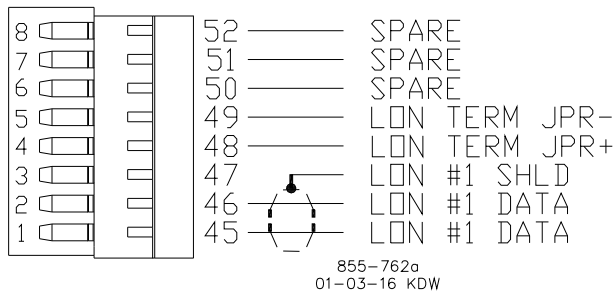

Figure 8-15. Wiring Example—LON Interface to the PowerSense Board
- Refer to Figure 8-15 for LON channel wiring.